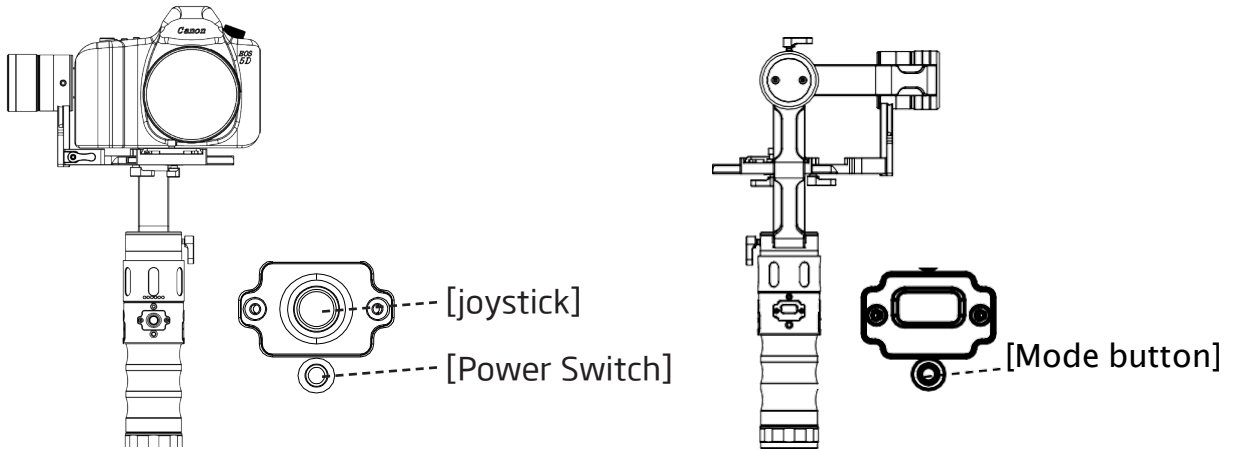

Fig. 9. Gimbal joystick
- Press the power button for two solid seconds to power the gimbal on (Fig. 9 [2]).
- Use the 5-way joystick (Fig. 9 [1]) to control the camera tilt and pan direction. Push the joystick up or down for tilting up and down. Push the joystick to the left or to the right to pan the camera left or right.
- Press the mode button one time, which is located under the OLED screen (Fig. 9 [3]) to enter **Lock Mode (Profile 1)**: camera will hold the direction and not follow, pan, or tilt.